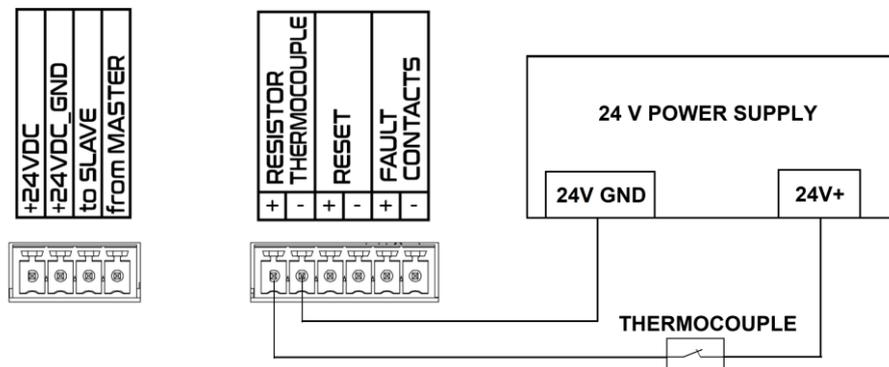

Figure 12 Resistor thermocouple contact connections
The “**RESISTOR_THERMOCOUPLE**” input is designed for the thermal protection of the braking resistor. A Normally Closed (NC) thermostat is recommended for this function. If the thermal threshold is exceeded, the contact opens, signaling excessive temperature in the resistor. To operate this, +24VDC must be supplied and the thermostat wired to the terminals as shown in Figure 12. If thermal protection is not required, or if the braking resistor is used without a thermostat, connect +24VDC directly to the thermostat input terminal to bypass this feature while taking into consideration of the voltage polarities.